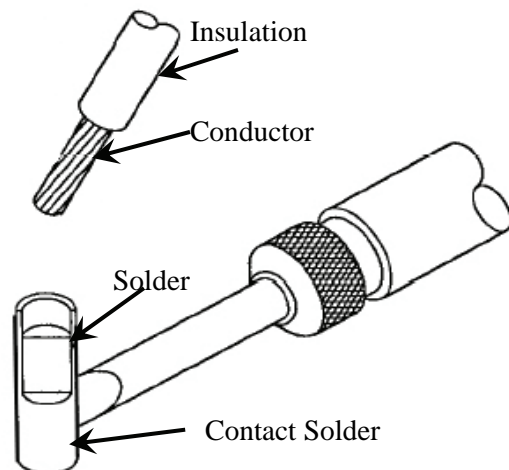

Figure 3. Conductor Wire Removal
21. Removing Conductor Wire. Apply heat to solder cup using soldering iron until solder melts; then remove wire (Figure 3).